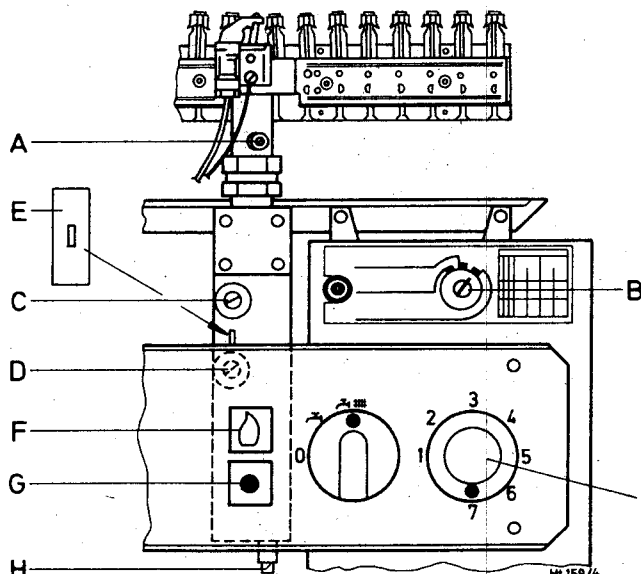

Fig. 11
1. Lead-sealed cover "E" (Fig. 11) above both gas setting screws to be removed.
2. Sealing screw at "A" (Fig. 11) to be turned out and U-gauge to be connected.
4. Gas control switch "B" (Fig. 11) to be set to position "MAX".
5. Applicable orifice pressure (mbar) for "MAX" to be taken from Table on page 14. This pressure is set by means of setting screw "D" (Fig. 11); turned in direction +: more, in direction -: less gas.
8. Applicable orifice pressure (mbar) for "START" to be taken from Table on page 14 and to be set with setting screw "C" (Fig. 11).
3. Gas control switch "B" (Fig. 11) to be set to position "MAX".
4. Applicable gas flow in litres (cu. ft.)/min. for "MAX" to be taken from Table on page 15. This flow is set by means of setting screw "D" (Fig. 11) with the aid of the gas meter;
9. Sealing screw at "H" (Fig. 11) to be removed and U-gauge to be connected to pressure point.